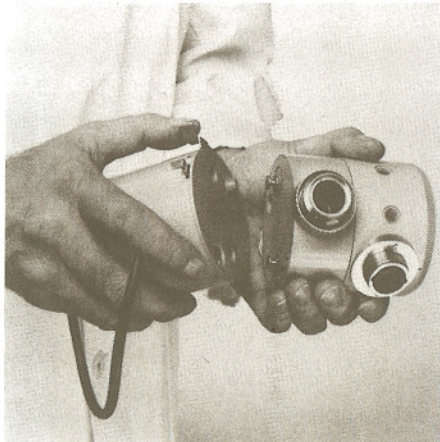

Fig. 4 Connection of sub-assemblies
- 1 To connect the alarm system to the respiratory pressure gauge (Fig. 4), first move each of the catch levers 7 apart until they come to stop. Insert the coupling bolts 6 of the respiratory pressure gauge in the holes 14 of the alarm system sub-assembly until the two housings come together. To lock together, press together both catch levers 7. Both sub-assemblies are properly connected when the locking mechanism notably engages.